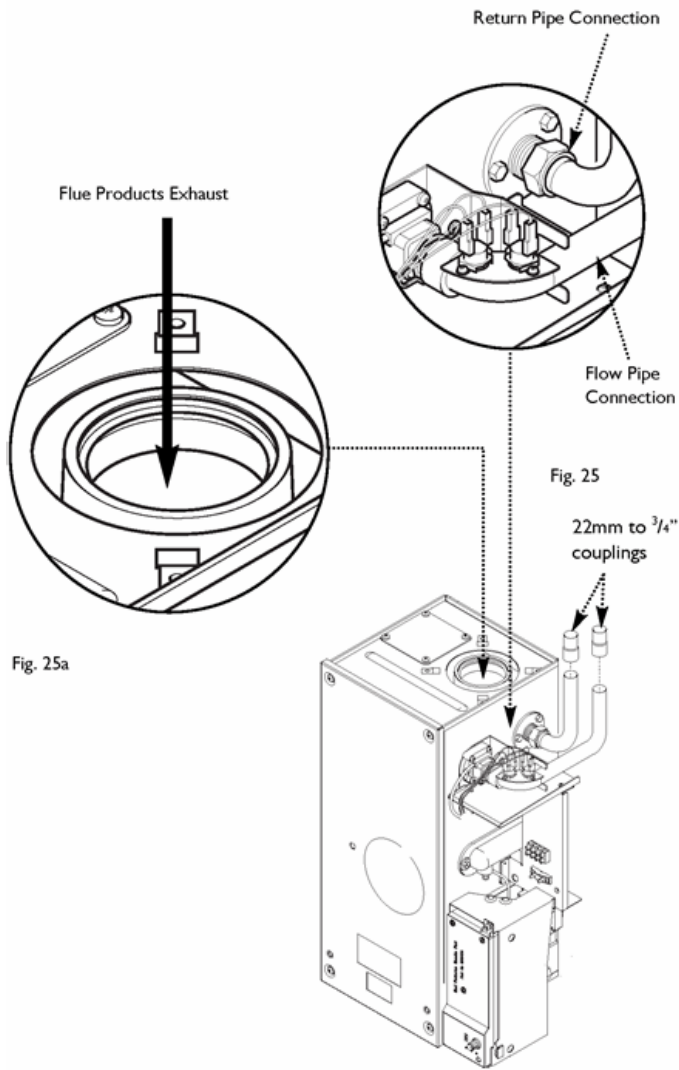

Fig. 25 & Fig. 25a
10.4 Making the Water Connections (Fig. 25)